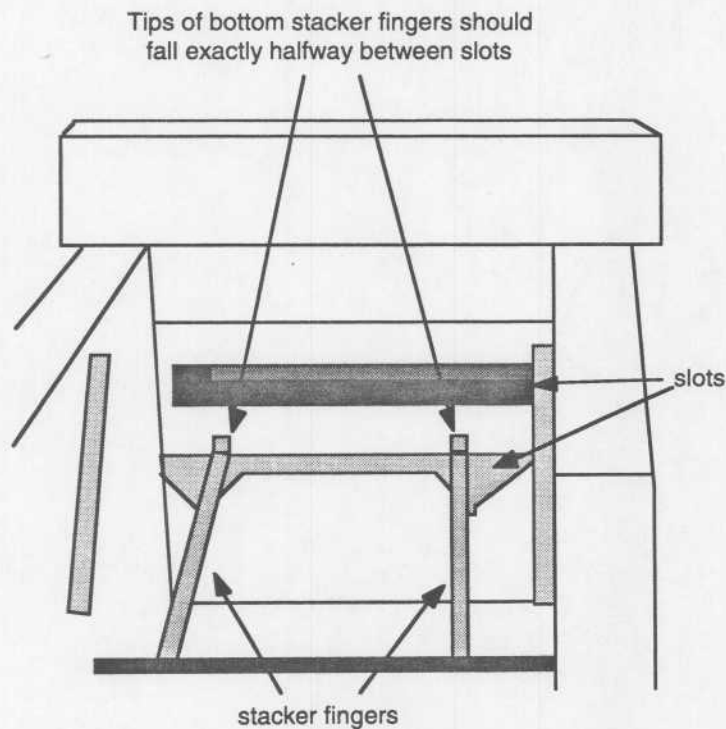
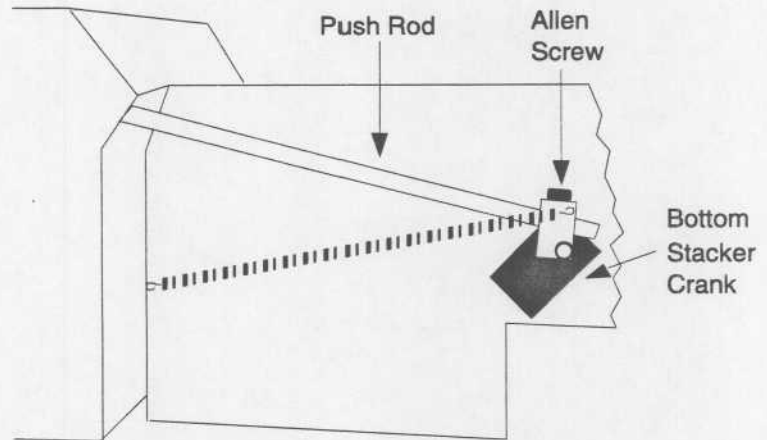

Figure 1.7: Optimal Stacker Finger Height
Figure 1.8: Adjusting Stacker Fingers
2. The stacker fingers will move to their lowest position. Examine the fingers. Their tips should fall exactly halfway between the narrow wall between the accept and reject slots (See Figure 1.7).
5. When the end cap is removed, loosen the Allen screw (shown in Figure 1.8) using a 9/64" Allen wrench until the stacker arms are in the proper position displayed in Figure 1.7 (pushing the rod towards the Tracer/ST causes the arms to go lower). Tighten the screw. Refer to Figure 1.8 for location of parts.